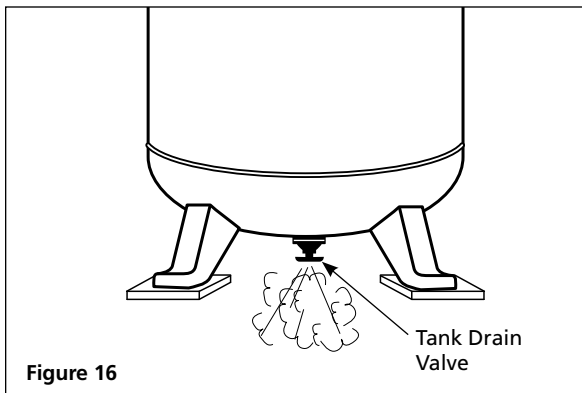

Figure 16
3. Open the tank drain valve (see Figure 16). Turn outlet valve to open air flow.
Drain Tank: Disconnect, tag and lock out power source; release pressure. Drain moisture from tank by opening drain valve underneath tank once tank pressure is less than 40 PSI (See Figure 16 on page 13).